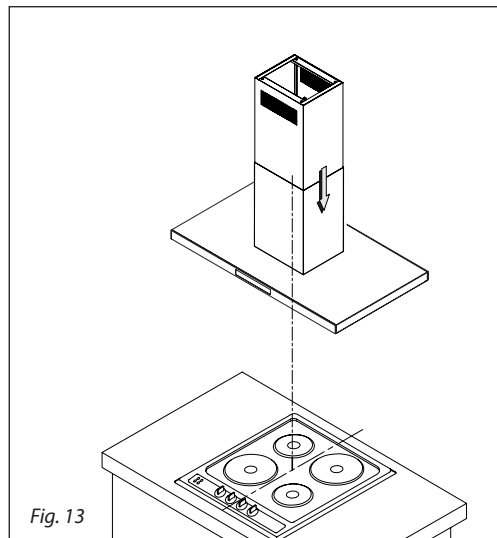

Fig. 13
10. Plug the power cord into the wall outlet. Fasten the screws on the upper chimney cover and lower the lower chimney cover fully (Figure 13).